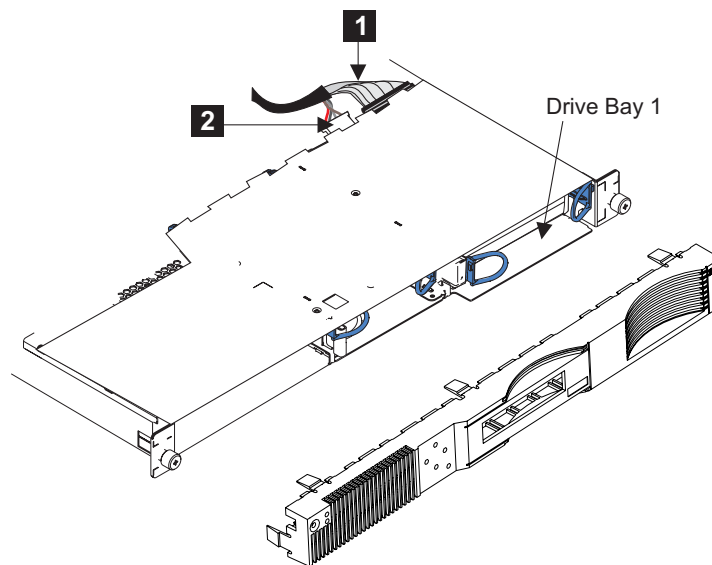

Figure 128. Replacing the SAN Volume Controller 2145-4F2 disk drive
4. Connect the SCSI signal connector **1** and the power connector **2**, which are shown in Figure 128, to the back of the disk drive.